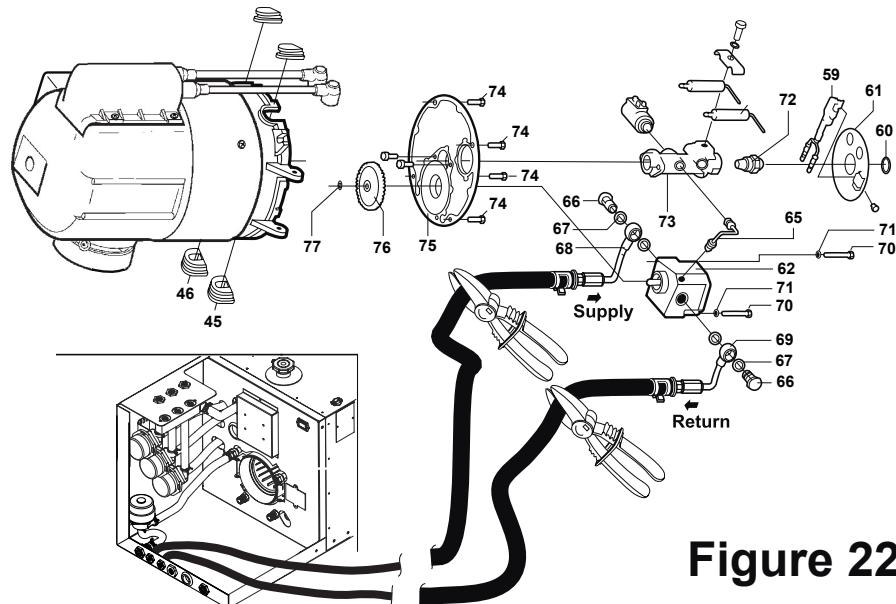

Figure 22
5. Remove the two *Fuel Mounting Screws*, which secure the *Fuel Pump* in place; reference item 70 of Figure 22. Turn the *Fuel Nozzle Manifold Plate* over and remove the *Snap Ring* from the *Fuel Pump* shaft using Snap Ring pliers; reference item 77 of Figure 22. Remove the nylon *Fuel Pump Gear*, then the *Fuel Pump*; reference items 88 and 72 of Figure 22.
NOTE: Reference Figure 22 for the correct order placement of the (4) Gasket Rings. Failure to use the new Gasket Rings, and/or the correct order placement, will result in a leaky Fuel Pump.